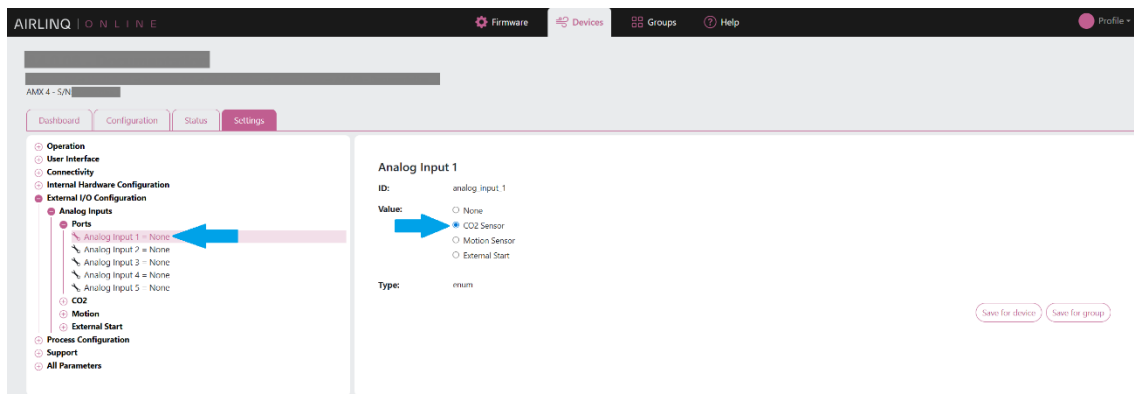

Figure 30: Analog Input configuration
- Click on "Analog Input 1". Set the value to "CO2 Sensor" on the right-hand side of the window, see Figure 30 below: